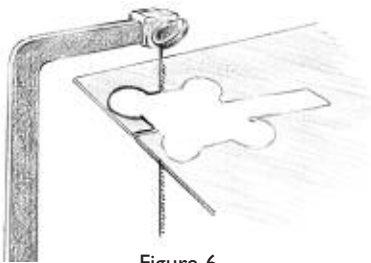

Figure 6.
Step 3. Saw out the shape using a jeweler's saw. (Figure 6) This is a simple tool, available from any jewelry supply company, that can be mastered in a few hours. After sawing, file and sand the edges to make them smooth.